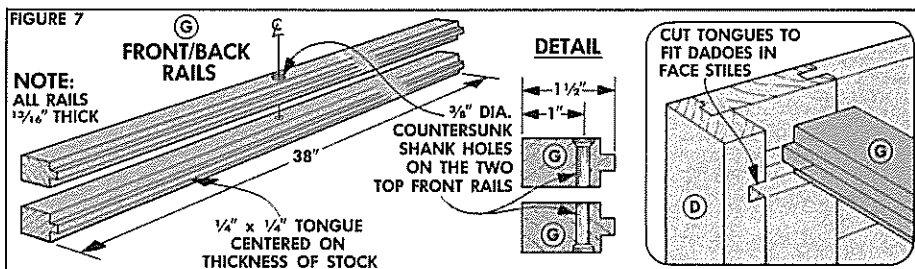

FIGURE 8
**ASSEMBLY.** Now glue and clamp the rails into the dadoes on the front and back face stiles, see Fig. 8.
After the rails are glued in place, facing strips can be added to the front edge of the front rails. There are two different sizes of facing strips, see Fig. 8. The top and bottom strips (H) are wider ( $1\frac{3}{8}$ ") than the two middle strips (I) ( $1\frac{3}{16}$ ").
**CUT GROOVES.** After cutting the strips to rough length, cut a groove on the back face of each strip to fit onto the tongue on the front rails, see Fig. 8. The groove on the top and bottom strips (H) is offset on the width. The groove on the two middle strips (I) is centered on the width.